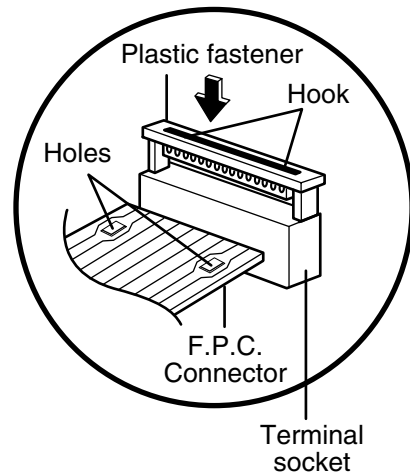

Figure 6
Follow the steps below as illustrated in Figures 6 and 7 to insert the F.P.C.connector.
- (1) Insert the F.P.C.connector into the terminal socket securely with the fingers.
- (2) Hold the plastic fastener with thumb and forefinger of the other hand, and push it slowly into the terminal socket. (Figure 6)